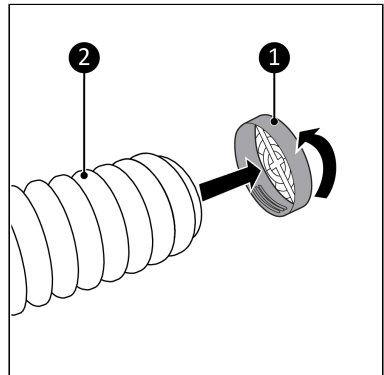

Figure 29.
2. Connect the window kit connector (Figure 29, pos. 2) to the other end of the hot air outlet hose (Figure 29, pos. 1).